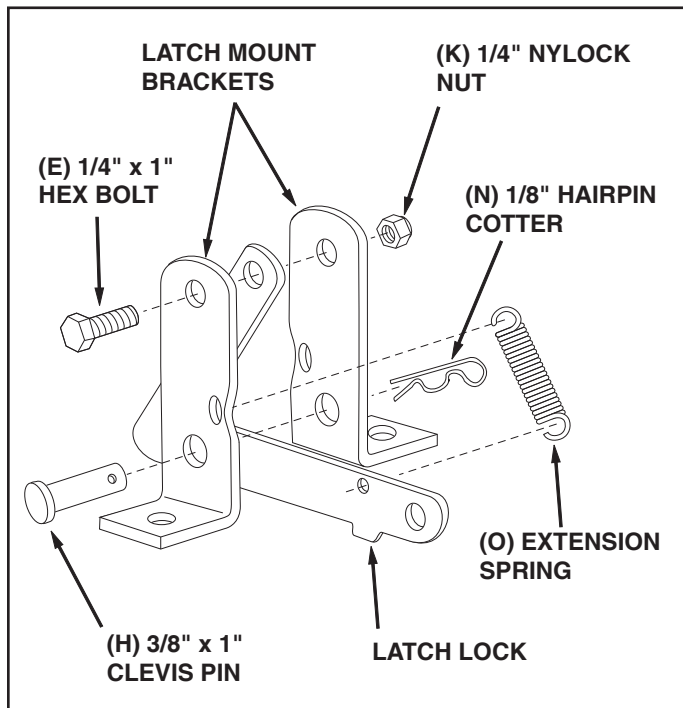

FIGURE 1
3. Assemble the latch lock between the latch mount brackets using a 1/4" x 1" hex bolt (E) and a 1/4" nylock nut (K). Tighten so that the latch lock can still pivot. Attach the extension spring (O) to the latch lock and the latch mount bracket as shown in figure 1.
4. Insert the 3/8" x 1" clevis pin (H) through the holes in the latch mount brackets and secure with a 1/8" hairpin cotter (N). See figure 1.
IMPORTANT: Leave the clevis pin in the latch lock at all times while using the cart as a push cart. The clevis pin is shown in figure 1 on page 5.